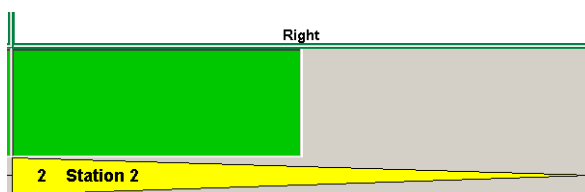

Figure 32: Example for a Blocked Area
- 2) Left-click the field and mark the number. The next step is to enter the value for the blocking. In the example, an area of 4 meter on the right side of the station is blocked. The grey area indicates the blocked area. *Please refer to the Figure 32.*